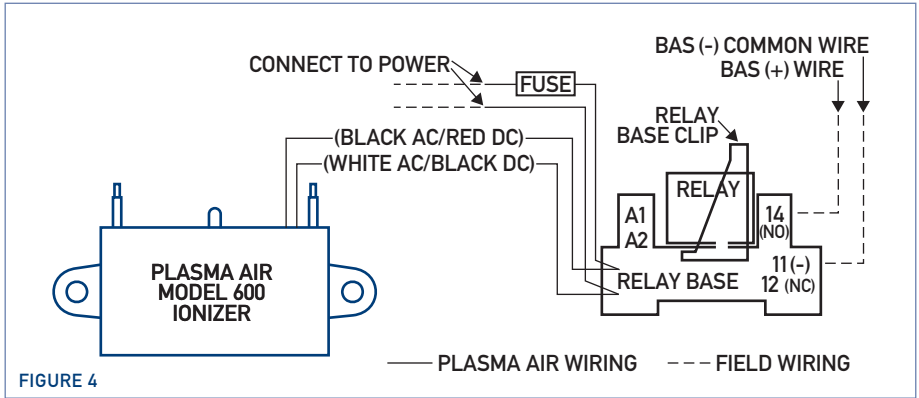

FIGURE 4
2. Connect power to ionizer using appropriate voltage per the following. See figure 4.